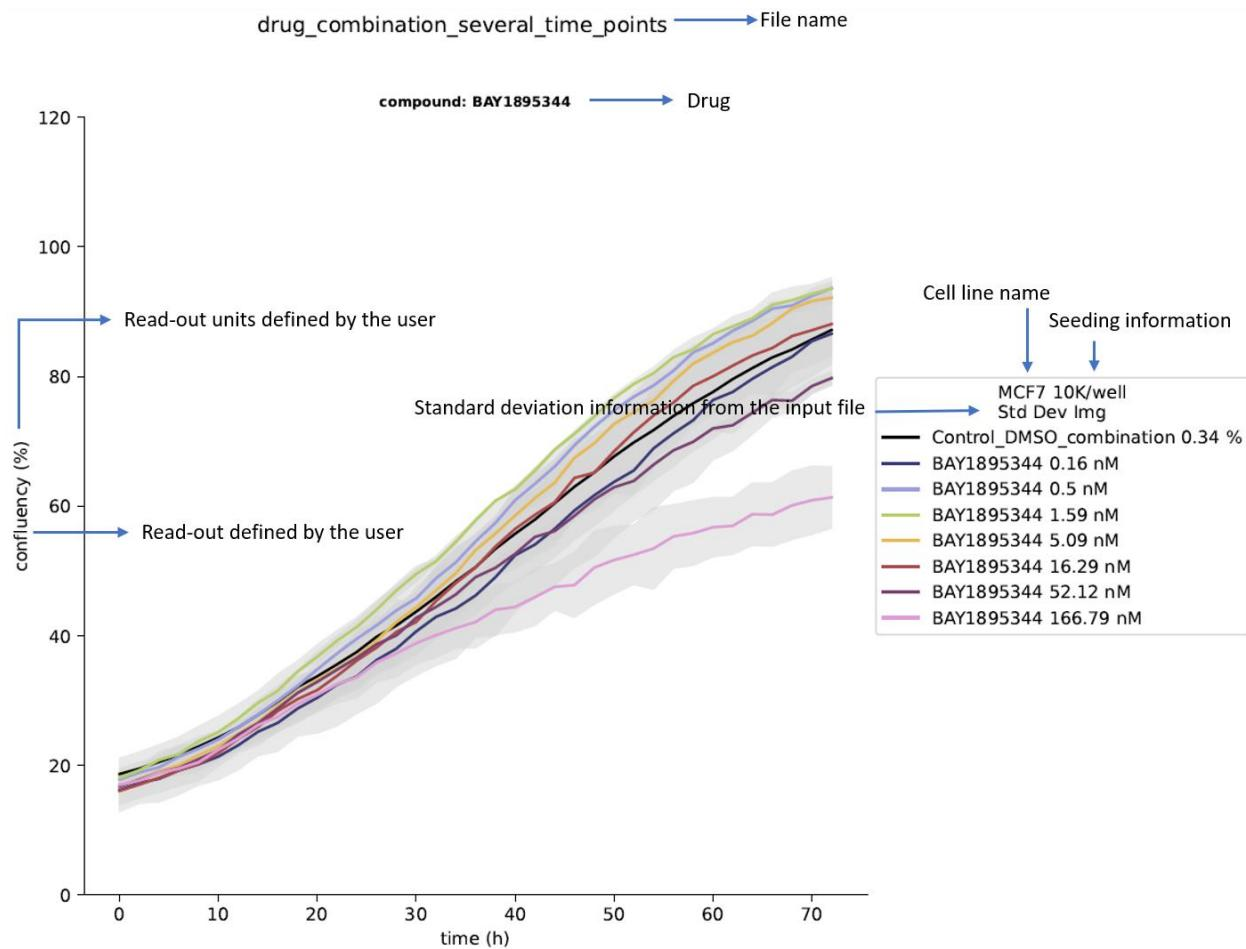

Figure 28: XY-plot example of raw data regarding all dosages tested of BAY1895344. Y-axis is the read-out provided by the user and on the X-axis is the time.
- Grouped all dosages for a certain drug, see Figure 28.